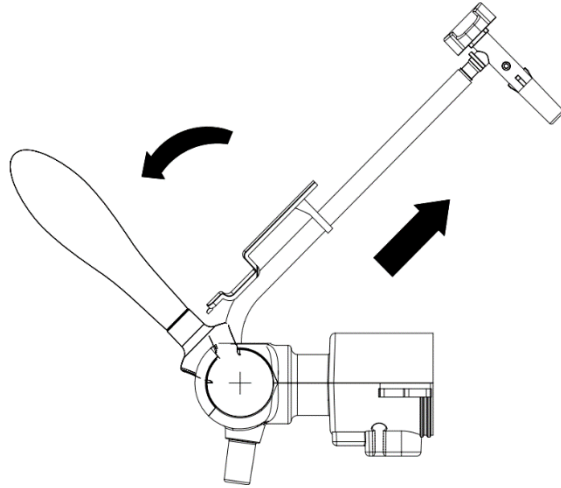

Figure 18
2. Pull the handle forward 45 degrees to open the tap and pull out the beer tube (as shown in Figure 18). The beer tube assembly can be installed in reverse order.